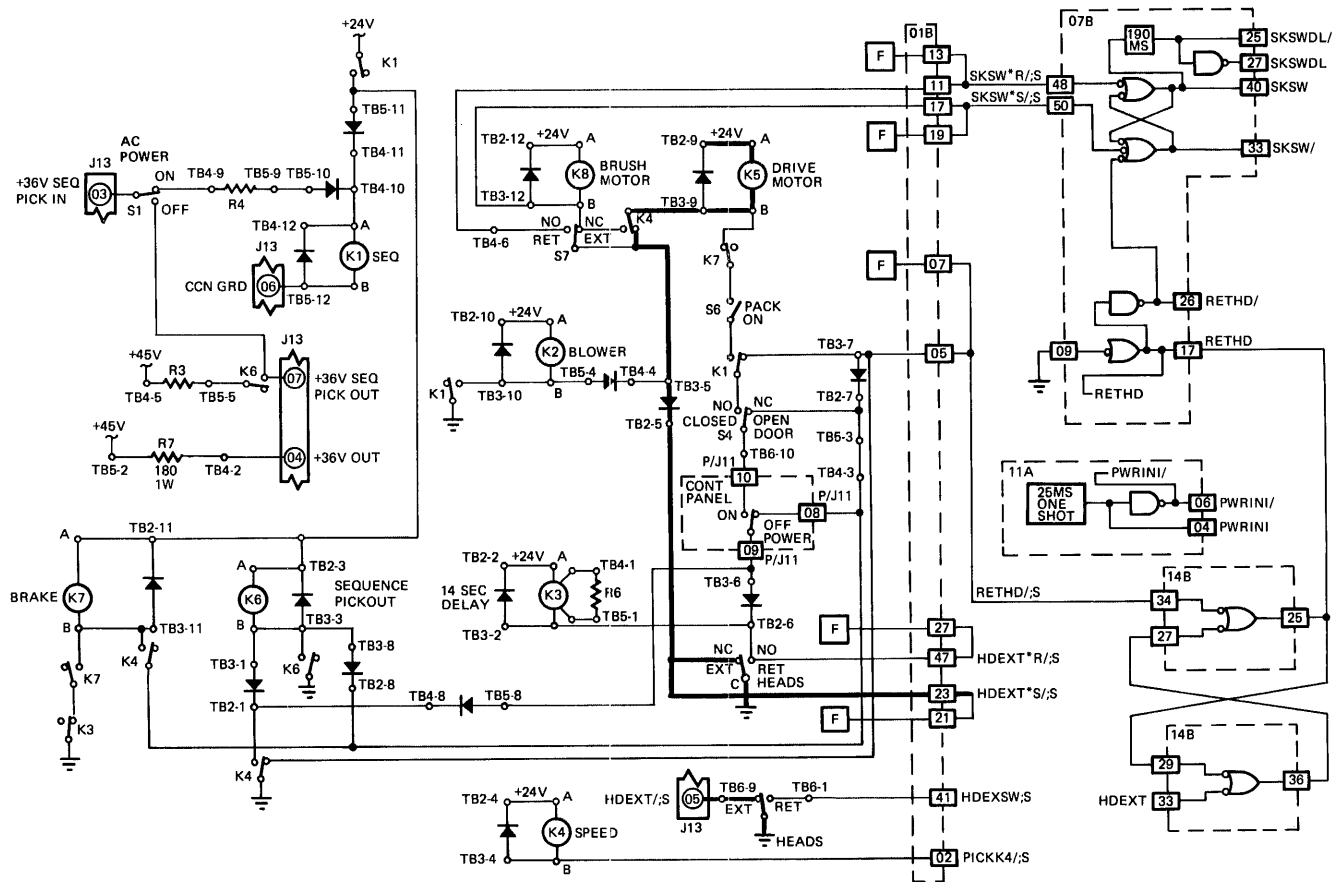

Figure 3-11. Moving Carriage During First Seek
- Figure 3-11. System Power-Up Flow Diagram